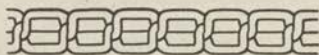

FIGURE 98.—Perfect stitch (cross section).
n. Tensions.—The needle and bobbin threads should be locked in the center of the thickness of the material (fig. 98).